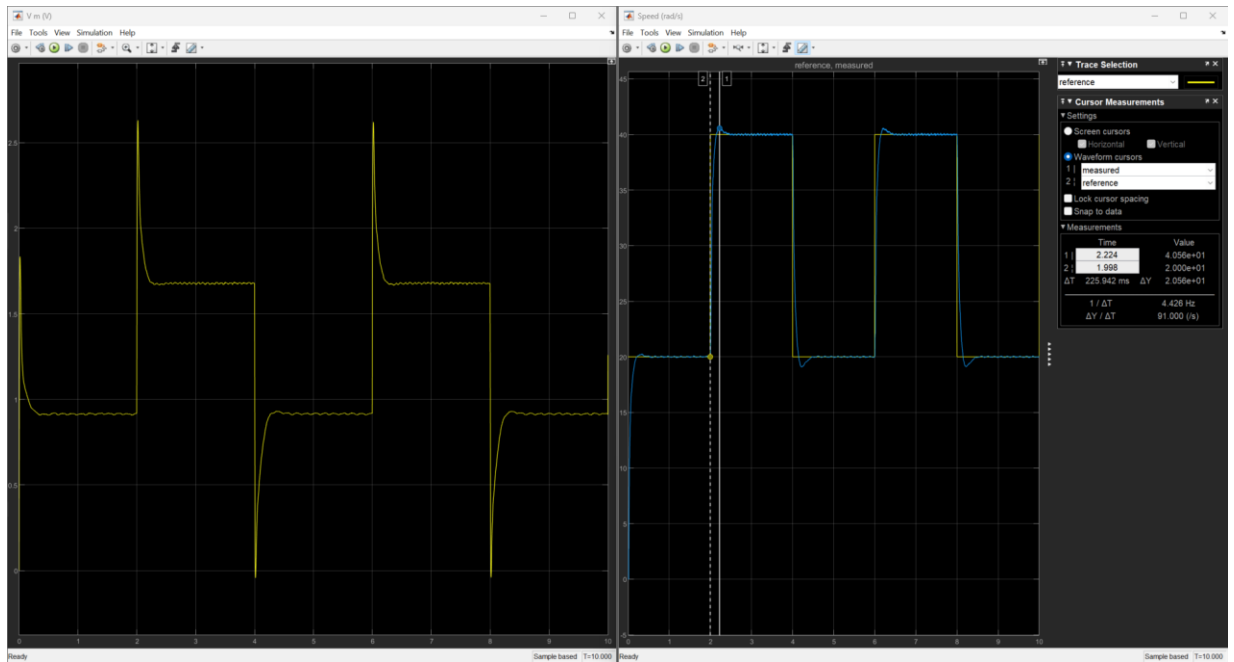

Figure 3: Sample response of the lead compensator using  $K_c = 1$ .
21. Use the measurement tool as shown in figure 3 to measure the percentage overshoot and peak time of the response. Does the response match the predicted step response from the previous section?